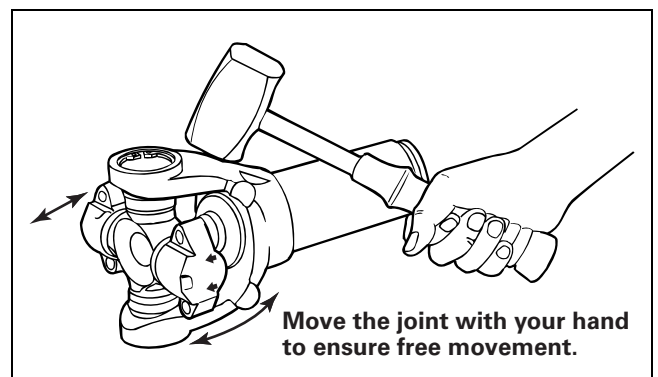

Figure 4.40
10. Strike the yoke ear with a brass or copper hammer to ensure that the universal joint moves freely. Figure 4.40.